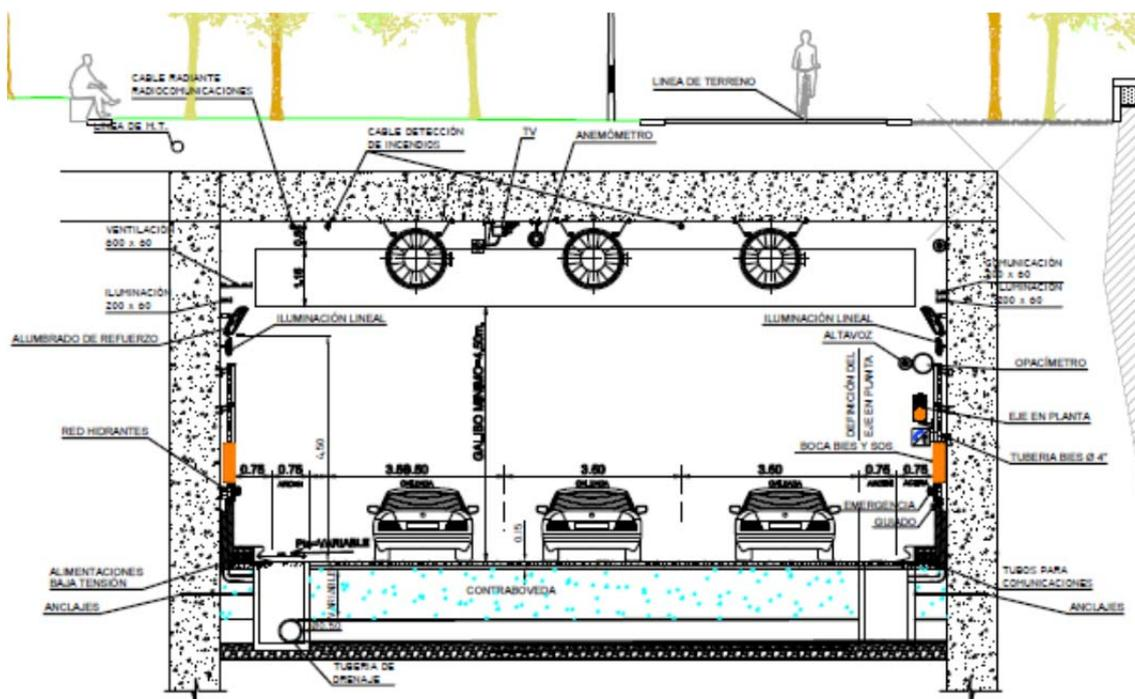

Figure 5 – M30-Río Tunnel. Cross section.
2.2.1 Main Tunnel M30-Río (Figure 5)